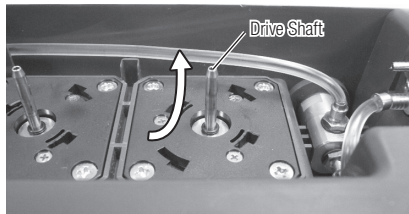

Fig.40
- Wipe dirt and water off the Drive Shaft from bottom up. (Fig.40)